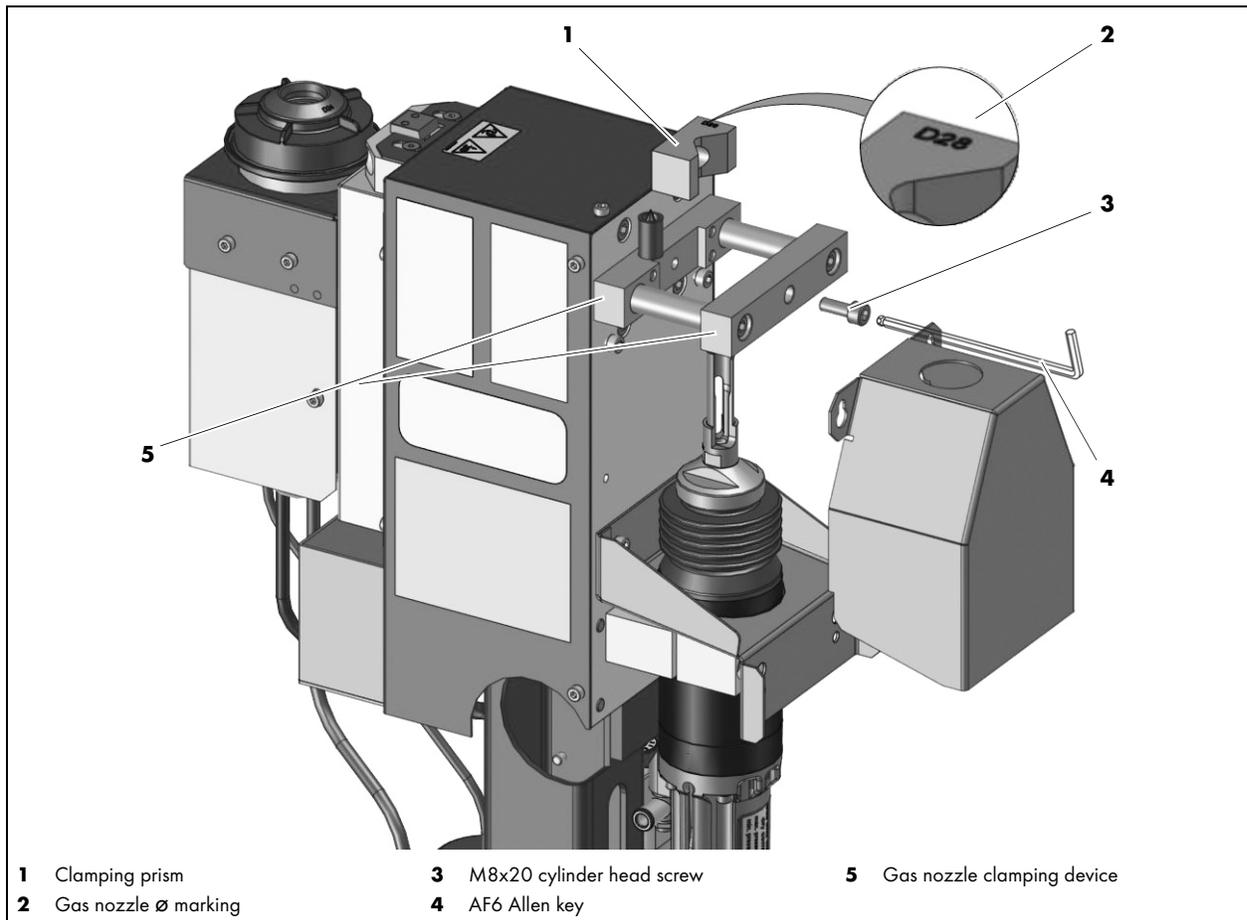

Fig. 15 Securing the clamping prism
□ Fig. 15 Securing the clamping prism on page EN-23, pos. **(2)**